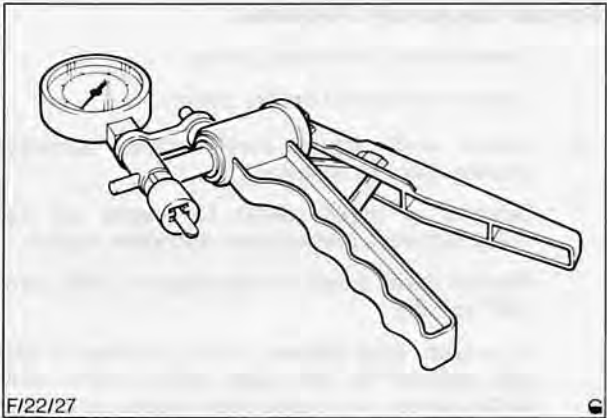

Fig. 30. Hand operating vacuum hand pump
- (b) An alternative method of checking advance characteristic is by using a vacuum hand pump, Fig. 30.